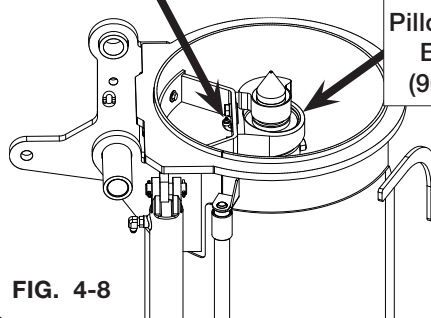

FIG. 4-8
8. Lower the upper auger. Lubricate the pillow block bearing (9004731) (Fig. 4-8). Check and remove any loose parts in the auger tube interior prior to start-up.